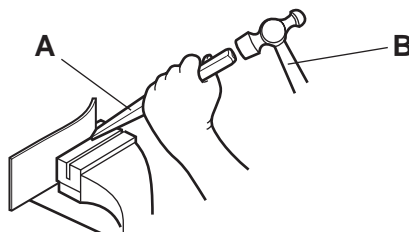

Fig. 3
- 10 Fig. 3 shows sheet metal being cut in a vice.